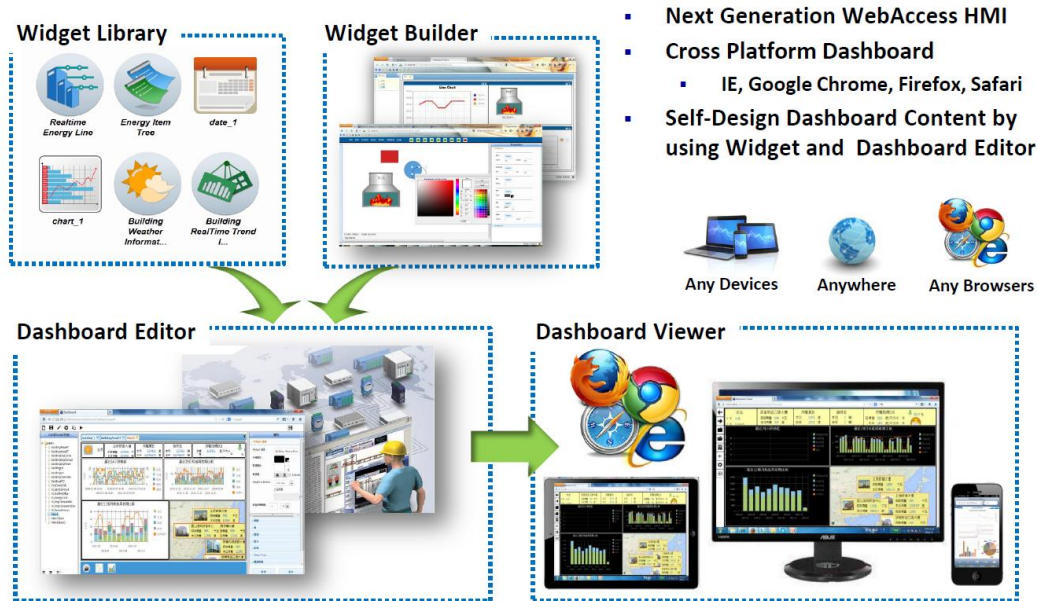

Figure 1 - Library and custom widgets can be combined with the Dashboard Editor to create screens viewable on a wide variety of devices.
The system integrator (SI) or system administrator edits dashboards and creates widgets. The SI may also import built-in vertical solution widgets for applications such as building automation, renewable energy and water treatment (Figure 1).